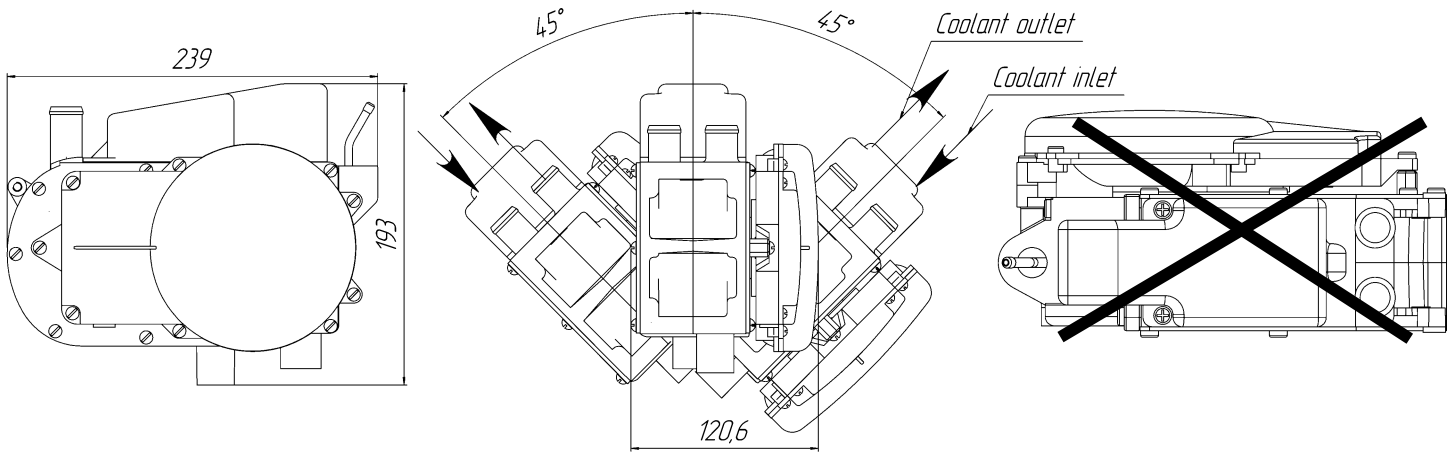

Figure 7.2 – Heater acceptable operating positions
The heater shall be installed with account of its operating positions (figure 7.2, items 7.1.1 and 7.1.2).
**Attention!** In case the heater is tilted to be installed on the vehicle, fluid hoses shall be connected to the heater adapters as shown in figure 7.2.